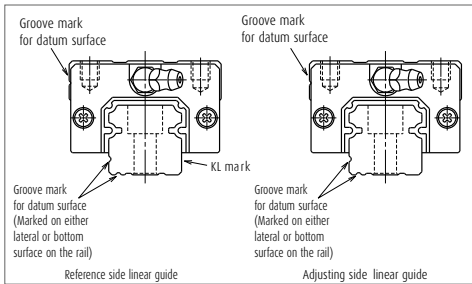

Fig. 1 Datum surface
- In case that two or more linear guides are used together, one linear guide is designated as a reference side guide, and the rest is adjusting side guide(s). The reference side linear guide has its reference number, serial number, and "KL" mark on the opposite side of the datum surface (**Fig. 1**).